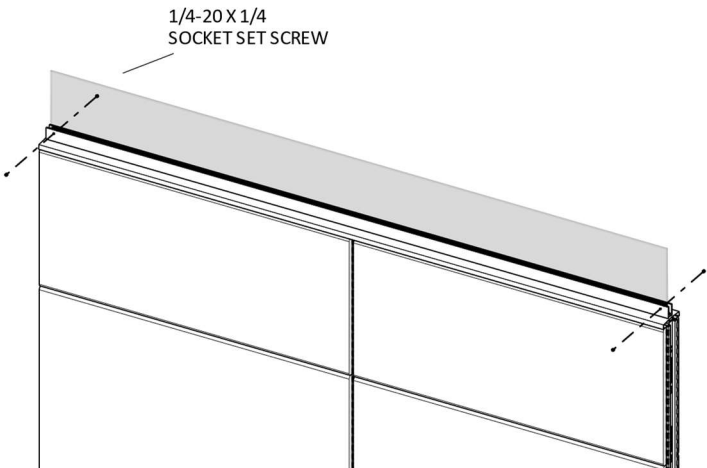

FIGURE 4
5. Align and secure the glass/acrylic by inserting 1/4-20 X 1/4" Socket Set Screw through each of the holes on the side of the Frameless Glass/Acrylic Extrusion using Allen Key driver, (Figure 4).